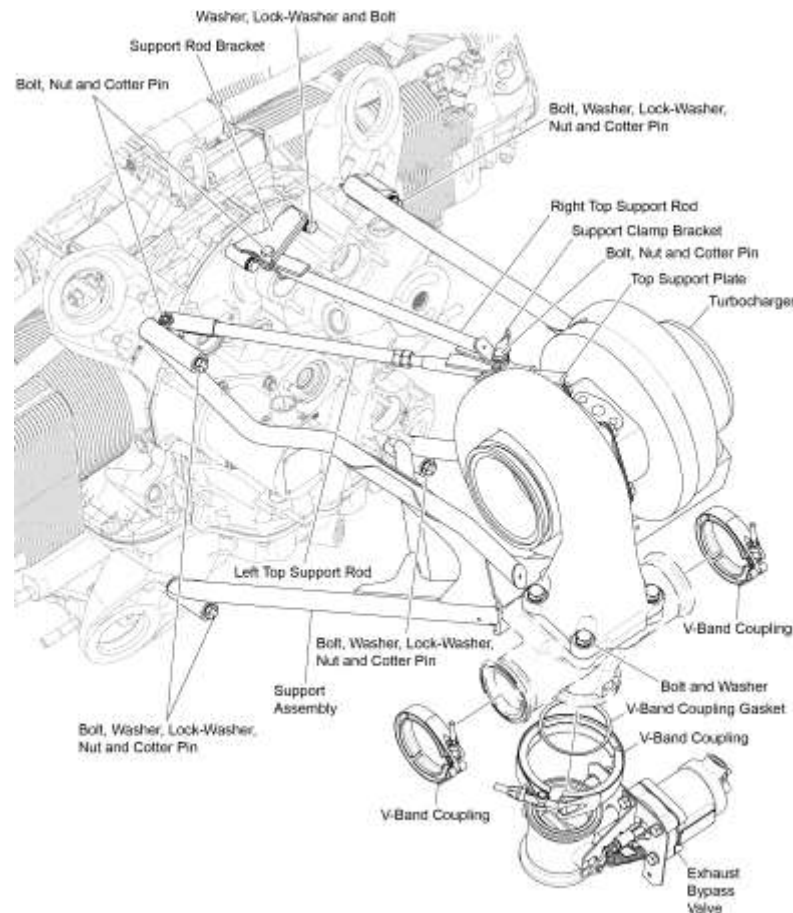
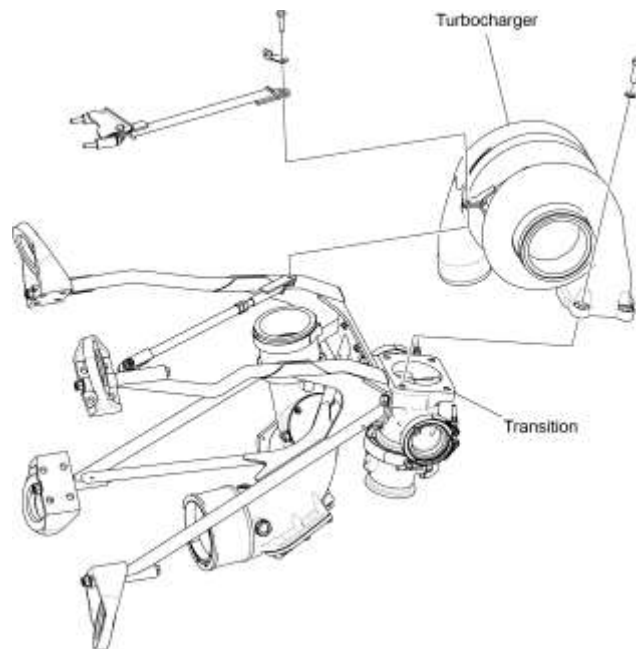

Figure 6
Figure 7
- L. Remove the cotter pin from the bolt through the support clamp bracket, top right support rod, top support plate, and top left support rod (Figure 6).
- M. Remove the bolt and nut from the support clamp bracket, top right support rod, top support plate, and top left support rod (Figure 6).
- N. Loosen the T-bolt clamp on the turbocharger end of the hose that attaches the air inlet box (Figure 7) to the turbocharger.
- O. Hold the turbocharger in place and remove the four bolts and four washers (Figure 6) that attach the turbocharger to the exhaust transition.
- C. Hold the turbocharger in place with the exhaust side mating flange against the exhaust transition (Figure 7). Install the bolts (Figure 6) through the turbocharger mating flange in the exhaust transition each with a washer. Torque the bolts to 30 ft.-lb. (41 Nm).
- E. Install the bolt through the support clamp bracket, top right support rod, top support plate, and top left support rod (Figure 6).
- I. Attach the hose assembly to the reducer adapter (Figure 6) on the turbocharger. Torque the hose per torque values in the latest revision of the *Service Table of Limits - SSP-1776*.
- (3) Remove the V-band coupling and gasket (Figure 6) that attaches the exhaust bypass valve to the exhaust transition. Discard the gasket.
- (4) Remove the exhaust bypass valve.